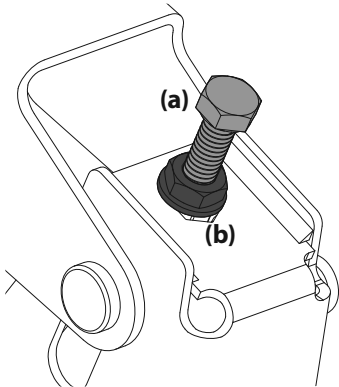

Figure 35
3. Locate the adjustment bolts (a) on the left and right side of the deck. See Figure 35.
4. Loosen, but do not remove, the jam nuts (b) on the adjustment bolt. Adjust either the right or left adjustment bolt up or down as necessary until the side-to-side heights are equal. See Figure 35.